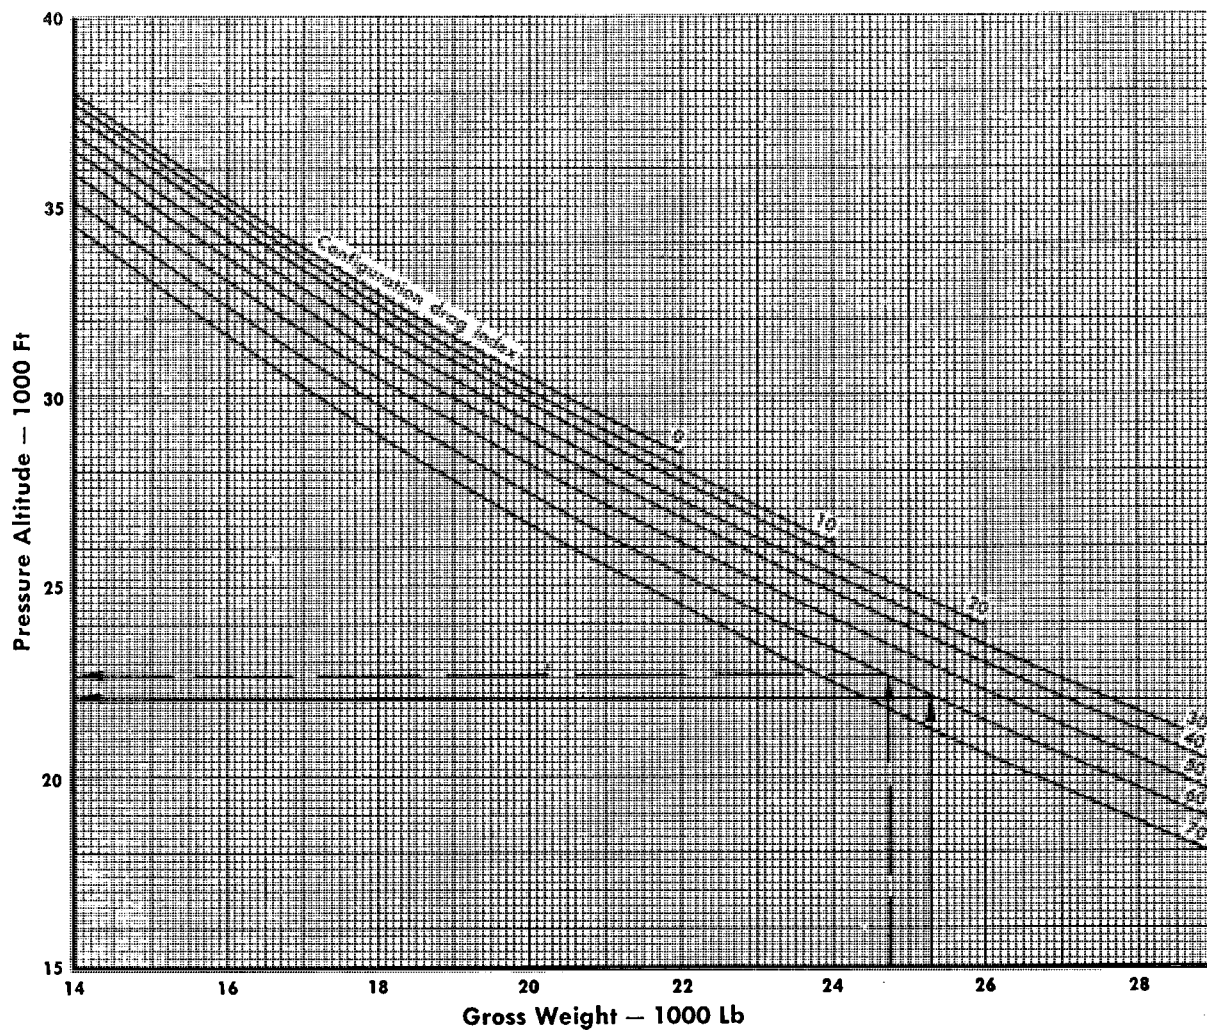

Figure A3-4
- b. Enter Figure A3-4, "Optimum Cruise Altitude", at the initial climb gross weight, 25290 lb, and read an estimated altitude, 22100 feet.
d. Reenter Figure A3-4 at 24710 lb and read a corrected optimum cruise altitude, 22650 feet.